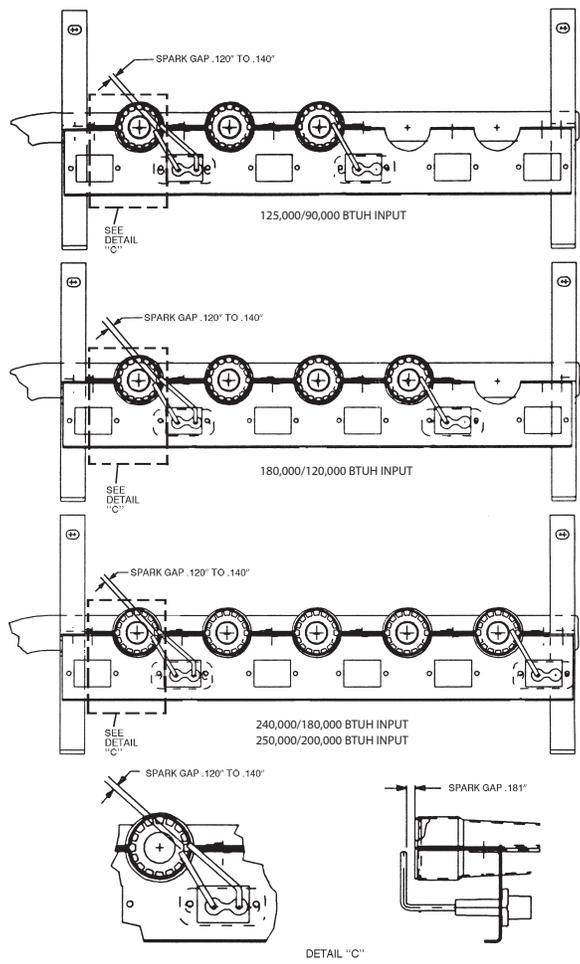

Fig. 37 - Spark Adjustment (08-14)
4. Adjust spark gap. (See Fig. 37.)